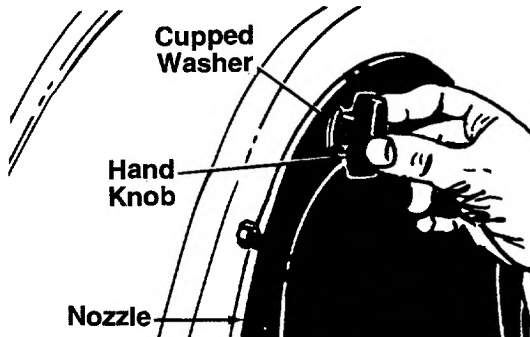

FIGURE 4.
← nozzle). See figure 4.
2. Remove the nozzle by removing one hand knob and cupped washer. Refer to figure 4.